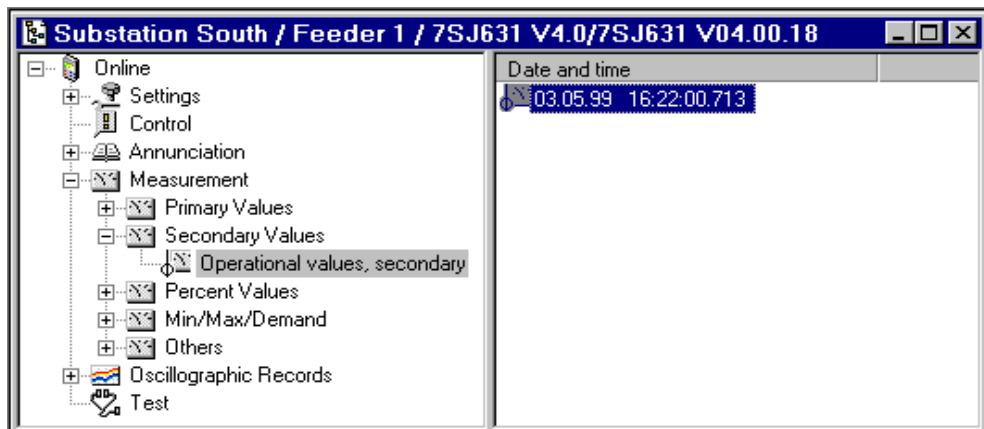

Figure 3-8 DIGSI® 4 — Viewing the Secondary Operating Measured Values
- ❑ The present date and time are shown in the data window (right), as illustrated in Figure 3-8.